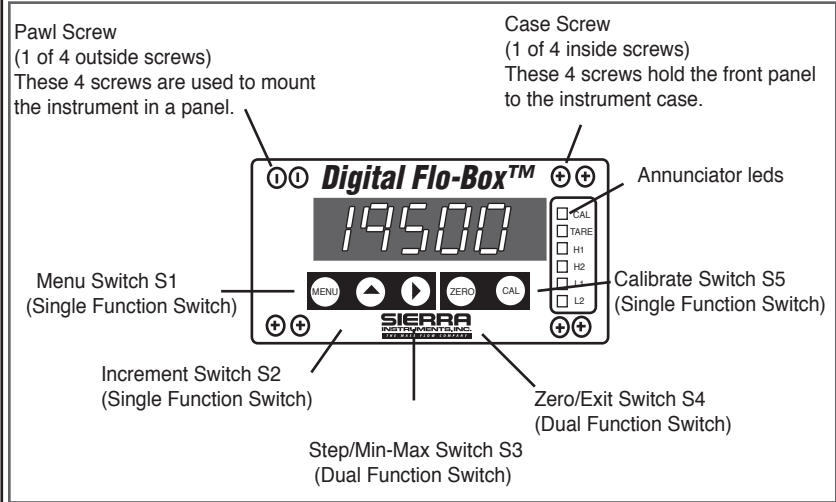

Figure 1. Model 951 Front Panel View
4. Depress and hold the ZERO (S4) switch for approximately 3 seconds (Reference Figure 1 on page 3). Verify ZERO annunciator LED is illuminated and the display reads 0000 +/- 0001 counts. Ignore the decimal point. The 951 is now zeroed.